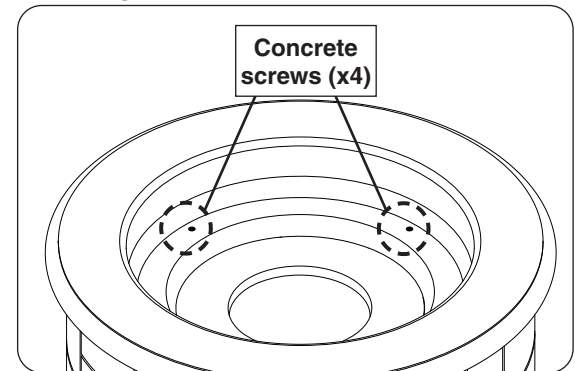

Fig. 33-4 Remove concrete screws
1. Remove the 4 concrete screws from the refractory panel (see Fig. 33-4).